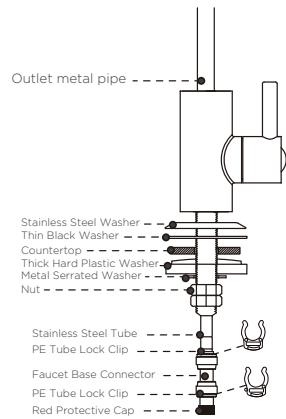

Figure 6
Locate and organize the installation parts, see Figure 6 for more details on assembly.
2. Referring to Figure 6, You will need to install the part in the order shown, Stainless Steel Washer. Thin Black Washer. Slide both onto the base of the faucet screw rod. The thin rubber washer should be sandwiched in between the faucet top and stainless steel washer.
5. Under the cabinet install the following components in this order: Reference Figure 6: Thick Black Rubber Washer; Metal Serrated Washer; Nut. In the order shown above, slide onto the base of the faucet screw rod.
Push connector onto faucet base until the connector bottoms out, see Figure 6.
1. Select and mark a location on the drainpipe (A or B). The location must be straight, at least 3" and before the P-trap (Fig. 6). It is recommended to use a vertical location (Fig.10)